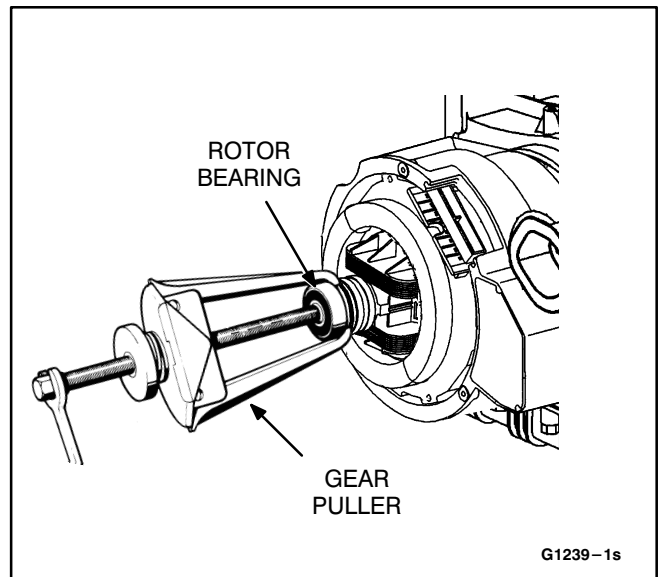

FIGURE 9-13. ROTOR BEARING REMOVAL
2. Use a small puller with grips that will fit between the bearing and the collector ring assembly (Figure 9-13) or use an arbor press to remove the bearing. Cover the end of the rotor shaft with a steel plate to prevent deformation of the shaft during removal.